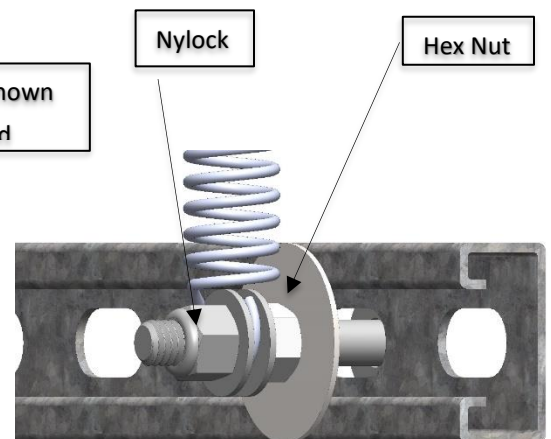

Figure 18: Lower Tape Installation
- Loosely assemble the Lower Tape Mounting Assembly in the order shown in figure 18.
- Thread the Nylock nut onto the bolt until the two flat washers that are on either side of the Spring are just touching the spring loop as shown in figure 18